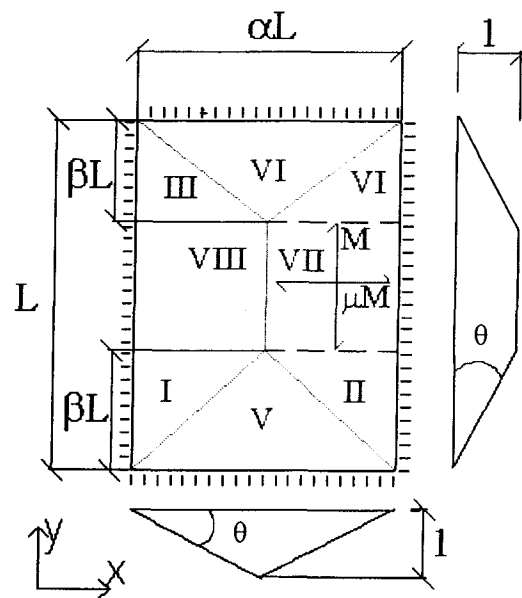

Figure 1
- (b) State the rules for yield line theory. Figure 1 portrays the yield lines for a two-way rectangular slab simply supported at every edge under uniformly distributed load of w /unit area. Determine the moment.